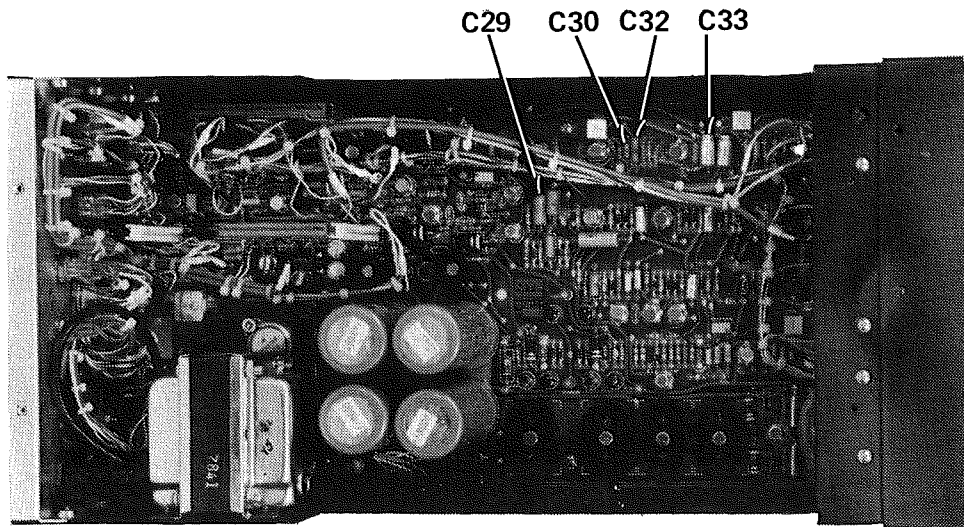

Figure 2-14. Component Locations for Rate Circuitry Modification
5. With ac power turned off, replace existing capacitors  $C29$ ,  $C30$ ,  $C33$ , and  $C32$  with the capacitors obtained in steps 3 and 4. Figure 2-14 shows the location of  $C29$ ,  $C30$ ,  $C33$ , and  $C32$  on the 406.11 main chassis circuit card.